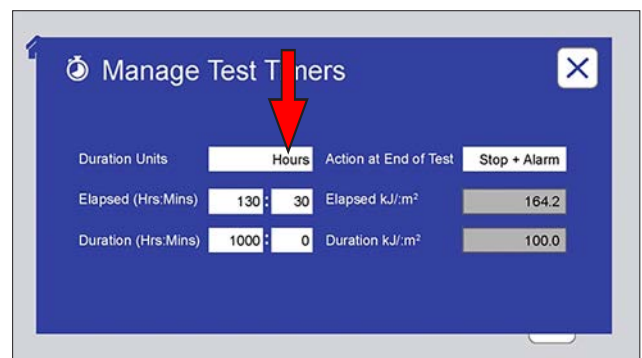
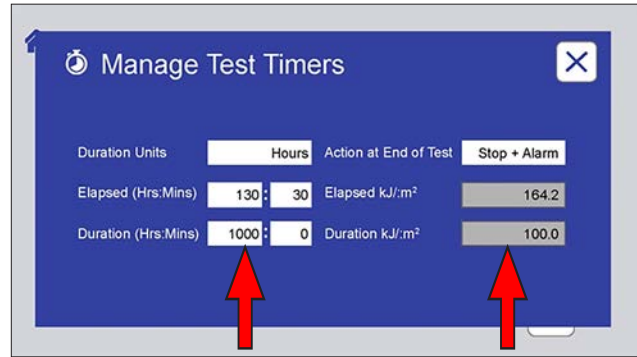

Figure 11.5d: Touch the Duration Units text box to set the test duration units in hours or in energy (kJ/m2).
Figure 11.5f: The value text boxes for the selected duration unit are enabled. The text boxes for the unselected duration unit are disabled (grayed out).
2. Set test duration units (Figure 11.5d through Figure 11.5f).